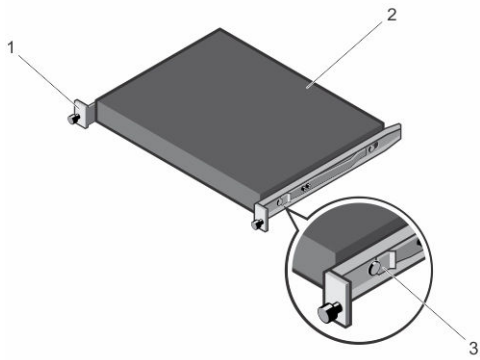

Figure 18. Attaching the Switch Rails
- 1 Attach the switch rails (inner chassis members) to the N30xx system. Item 3 in Figure 18 shows the detail for the front standoff with the locking tab.